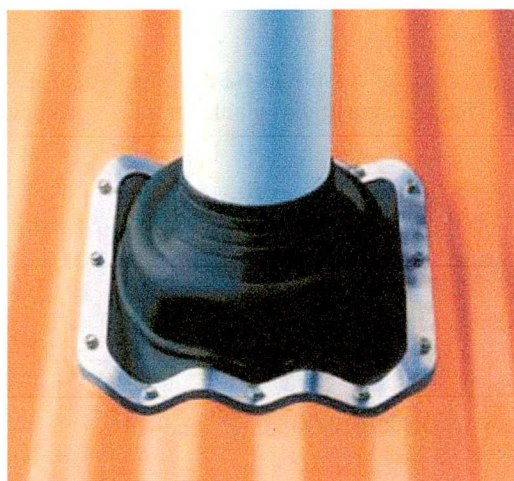
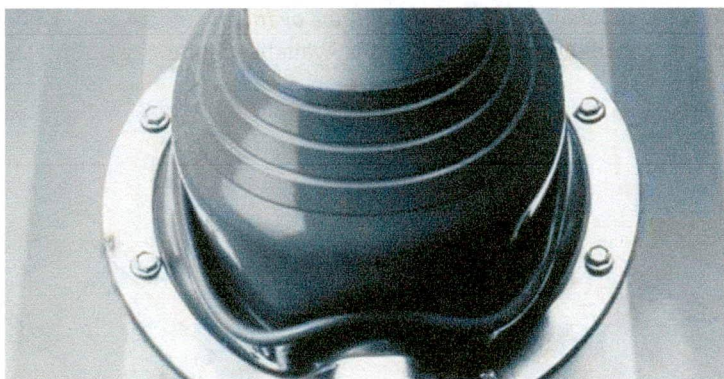

Figure 4
Figure 5
- Example of an EPDM Boot Type Flashing on a Corrugated (*figure 4 overleaf*) and Trapezoidal (*figure 5 overleaf*) Profile Metal Roof Currently Available on the Market